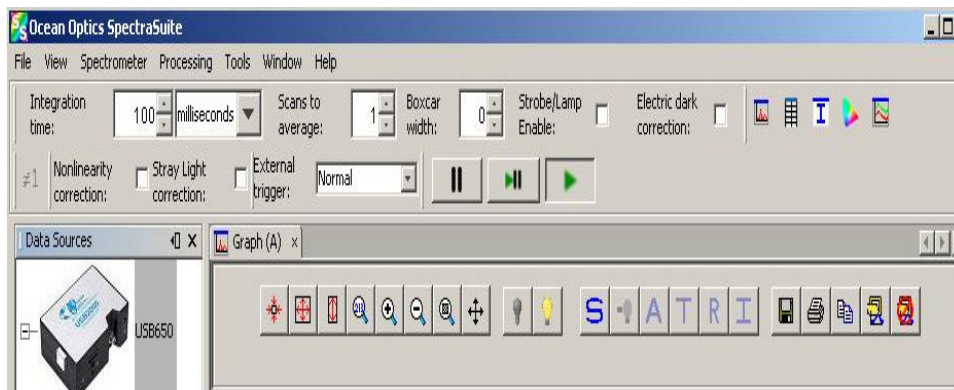

Figure 14. SpectraSuite toolbar
1. Start Spectrasuite by clicking the **Start** button, then selecting **All Programs | Ocean Optics | SpectraSuite |  SpectraSuite**. Figure 14 is the toolbar that will appear at the top of the screen.